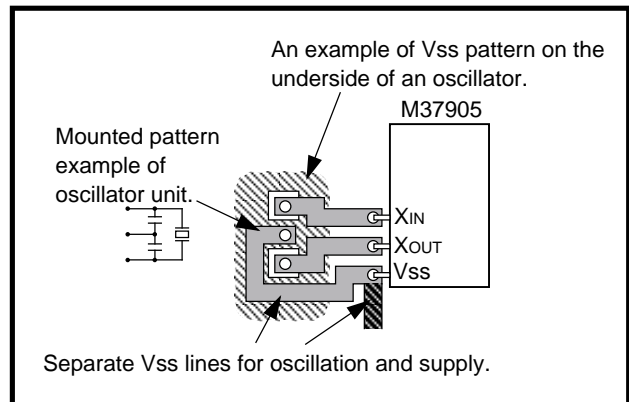

Fig. 10 Vss pattern underneath mounted oscillator
- Separate the Vss pattern for oscillation from all other Vss patterns. (See Figure 10.)